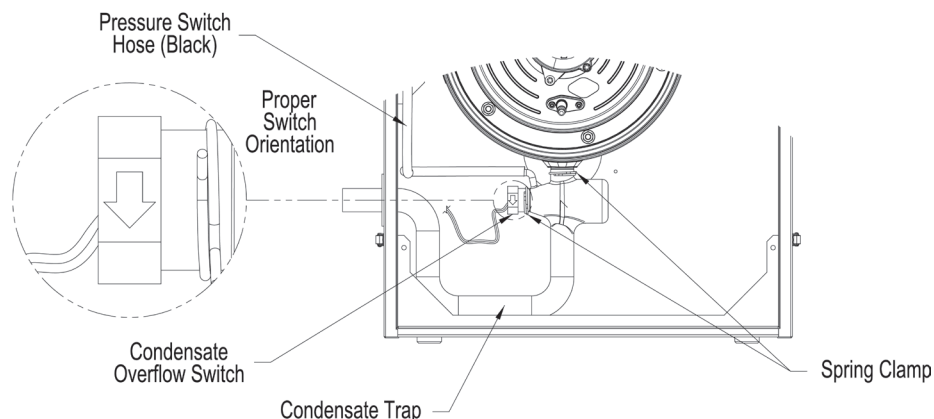

Figure 60: Condensate Overflow Switch Orientation
- e. Apply silicon sealant to the replacement switch threads and install the switch into the trap body making sure it is properly oriented - the arrow molded into the switch hex end side must face down for proper switch operation. See Figure 60 “Condensate Overflow Switch Orientation” for details.
- j. Insure that fresh silicon sealant is applied to the overflow switch threads and the switch is properly oriented relative to the trap body - the arrow molded into the switch hex side end must face down for proper switch operation. See Figure 60 “Condensate Overflow Switch Orientation” for details.